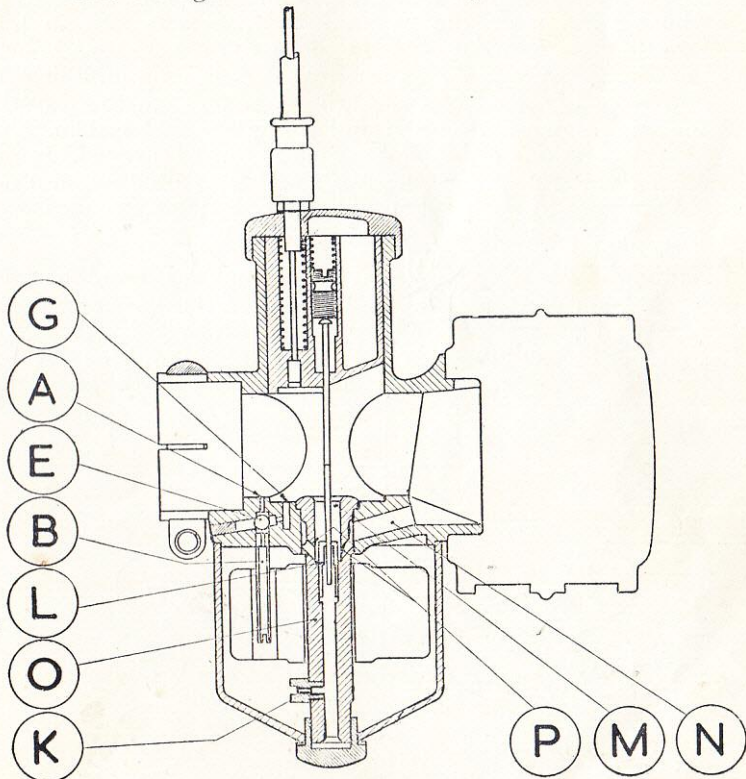

Fig. 3.
At idling speeds, when the throttle is nearly closed, the pilot outlet hole (A) Fig. 3 is subject to the very high engine suction, and petrol is, therefore, drawn from the float chamber through the pilot tube (B), and the pilot outlet hole. The calibrated pilot-jet is contained in the top of the pilot tube. At the same time, a filtered supply of air is drawn from the mouth of the carburetter through passage C, through the variable air-jet D, and is then pre-mixed with the fuel in the small chamber E. The pilot adjuster screw F varies the size of the pilot air jet, and therefore, the pilot mixture strength—to richen mixture, turn screw clockwise.